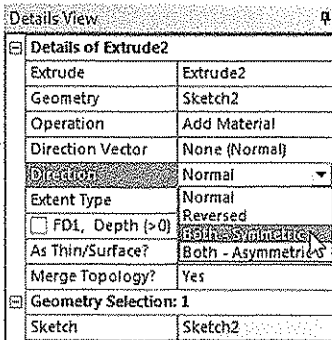

Figure 3-45 Selecting the **Both-Symmetric** option from the **Direction** drop-down list
25. Select the **Both-Symmetric** option from the **Direction** drop-down list in the **Details View** window, refer to Figure 3-45; the same amount of material is removed from both sides of the sketch.
In Figure 3-45, the display of plane has been turned off to see the cutout feature clearly.